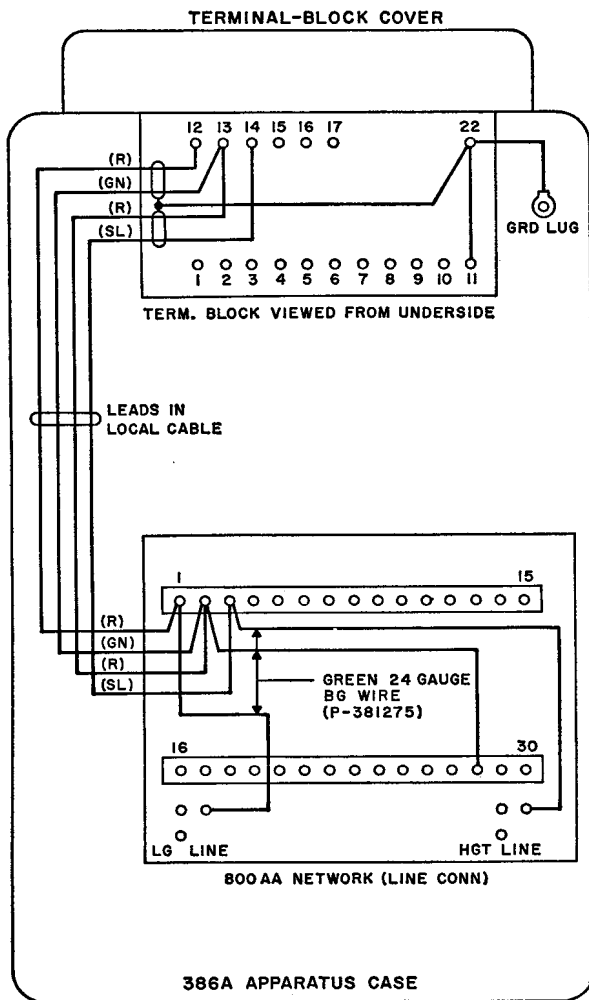

Fig. 2 — Modification of P1 Carrier Wiring in J98707E, List 1 To Permit Repeaters with the 800AA Network To Be Tested at Terminal Block
2.02 *Repeater Mounting Equipped with 800AA Networks:* The following modifications of the local cable connections between the inside terminal block and the 800AA network line connector are shown in Fig. 2.